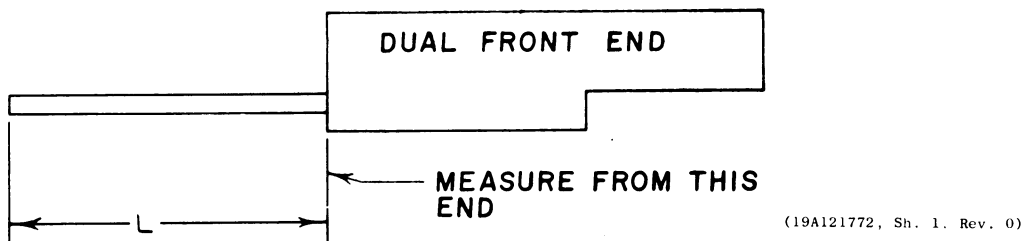

Figure 10 - DFE Cable Length ( $3/4$ -Wavelength at Rcvr Freq.)
2. Measure the cable as shown in Figure 10 and cut the cable to length.